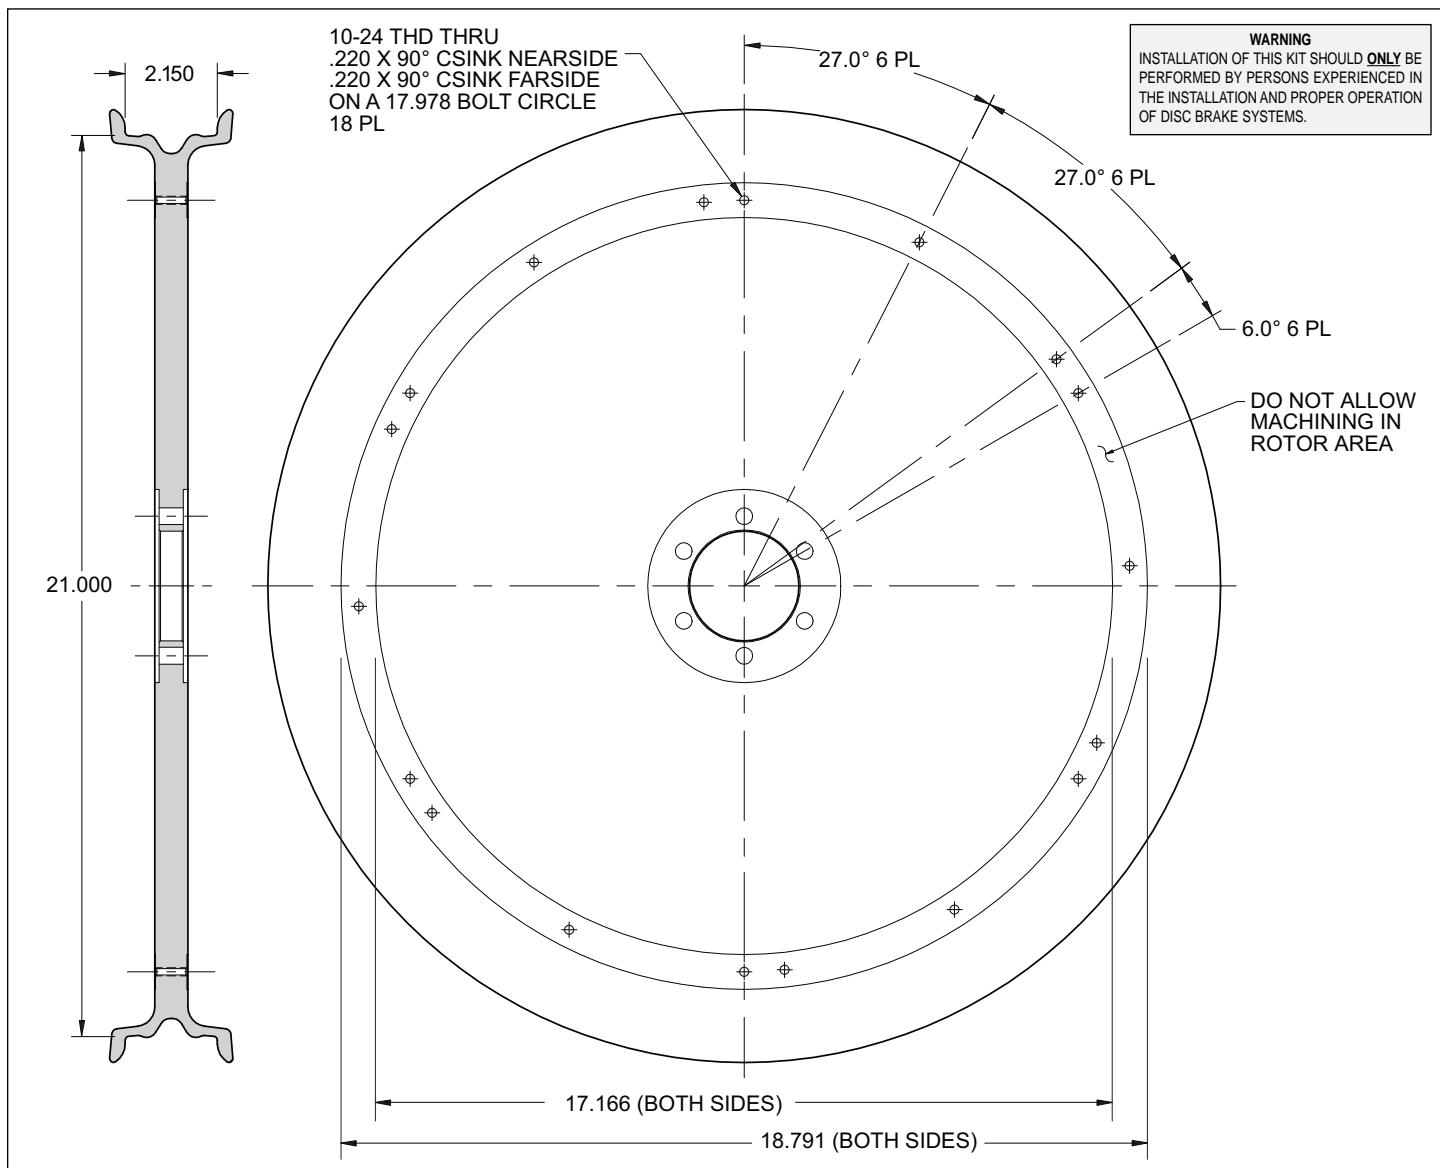
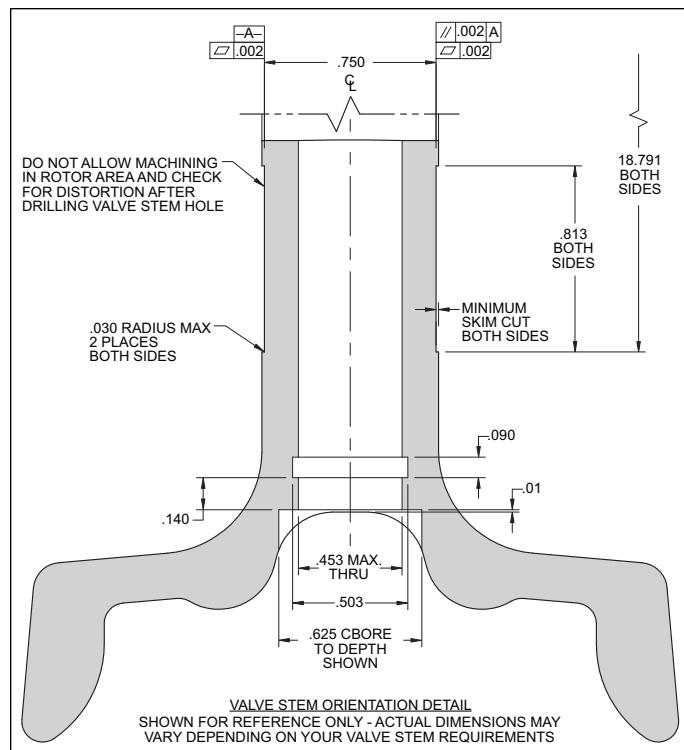
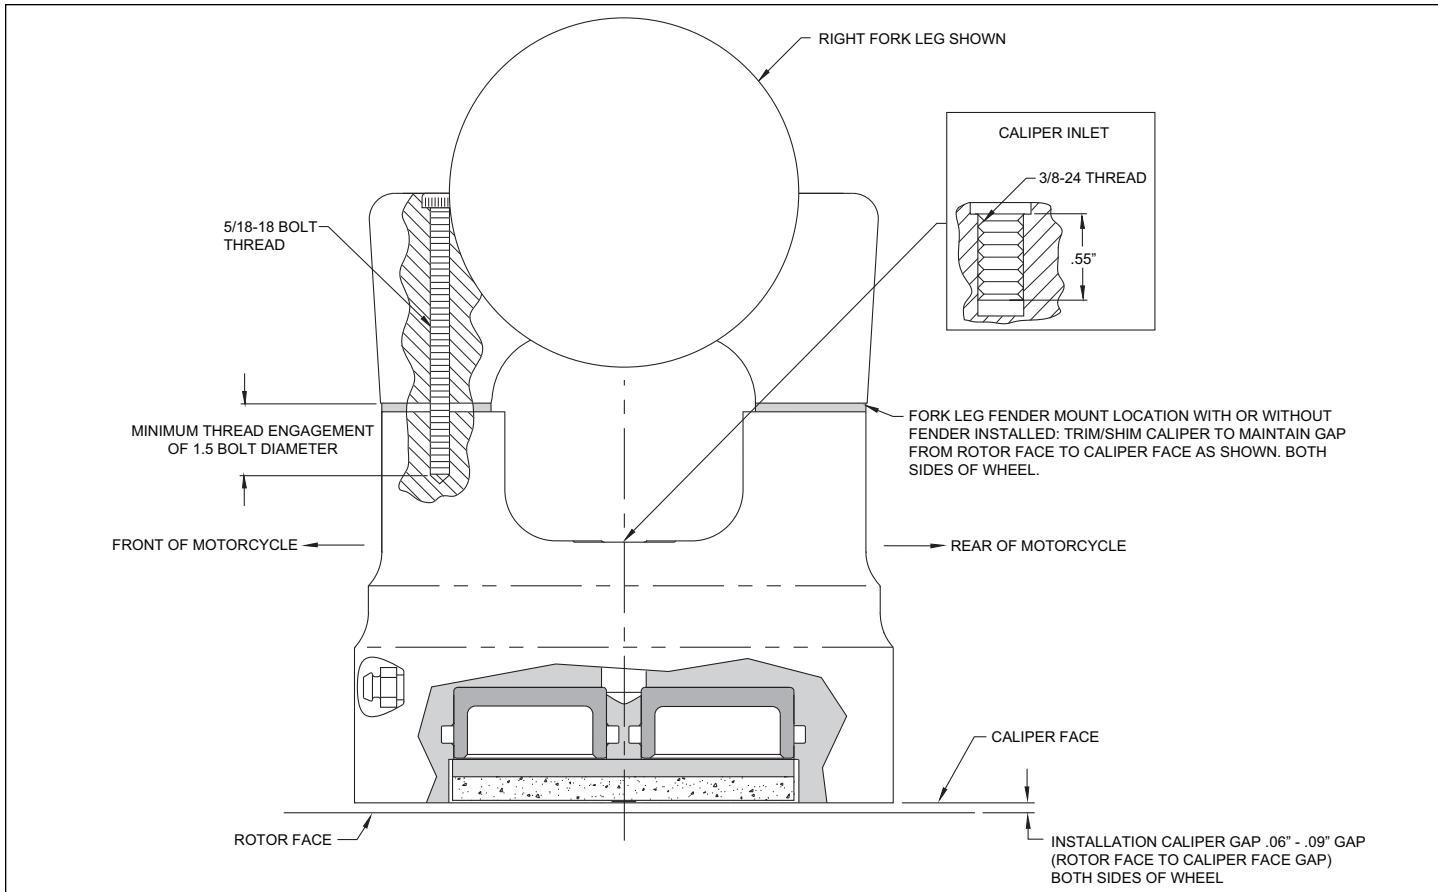

Figure 1. Rotor Segment Drilling Pattern
Figure 2. Wheel Machining / Valve Stem Detail
Figure 4. Caliper Installation
• The dimensions as outlined in figure 1 are for the installation of Wilwood rotor segments (2). These segments are specifically designed for use with a 21.00" by 2.15" machined wheel. After you have machined your wheel per figure 2, being careful not to allow machining in the rotor area other than for the 10-24 threaded holes. Also, remembering to drill for your valve stem. Figure 2 valve stem detail is for reference only. Actual dimensions may vary depending on your valve stem requirements. Wilwood does not supply a valve stem. Valve stem must be oriented on the wheel centerline as shown. Maximum through hole allowable is .453".
• Proceed to prepare the wheel for the installation of the rotor segments. First drill 18 10-24 threaded through holes on both sides of the wheel per the dimensional characteristics of figure 1.
• Install the rotor segments (2) to the machined wheel using bolts (3). Before installation, apply red *Loctite*® 271 to the bolt threads and torque bolts to 40-50 **in-lbs**, being sure bolt heads are completely flush or below rotor segment surface.
• The caliper (1) mounts to the front leg support as shown in figure 4. The caliper mounting installation holes are tapped for 5/16-18 bolt threads. Customer supplies their own caliper mounting bolts. These bolts are then torqued to applicable specifications depending upon the grade bolt utilized. The use of blue *Loctite*® is solely at the discretion of the installer.
NOTE: The Stealth caliper inlet fitting is a 3/8-24 thread. A banjo bolt fitting is used at the caliper with sealing (crush) washers. Banjo bolt thread engagement should not shorter than .375" or too long to cause it to bottom out at the end of the threads (see figure 4). Use enough steel braided line to allow for full suspension travel and turning radius, lock to lock. **Carefully route lines to prevent contact with moving suspension, brake or wheel components.** It is the installer's responsibility to properly route and ensure adequate clearance and retention for brake hose components..